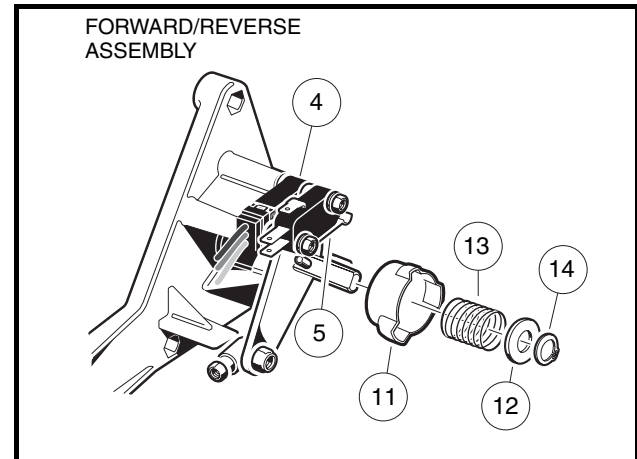

Figure 12-20 Lockout Cam
3. Remove the external snap ring (14) (**Figure 12-20, Page 12-18**).
4. Remove the plastic washer (12) and the spring (13).
5. Remove the cam (11).
1. Install the cam (11) (**Figure 12-20, Page 12-18**).
2. Install the spring (13) and the plastic washer (12).
3. Install the external snap ring (14) into the groove on the shaft. The lockout limit switch should be activated only when the Forward/Reverse handle is in the NEUTRAL position.